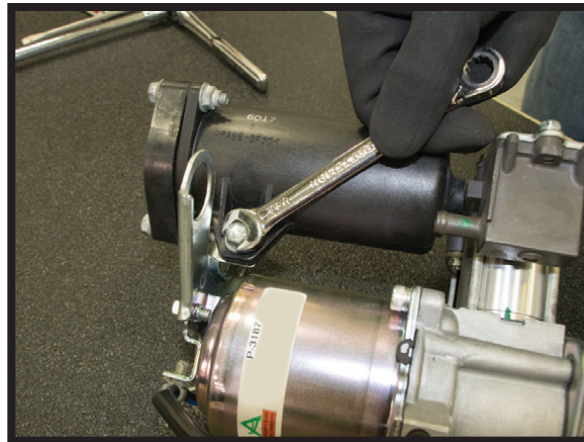

FIGURE 18
3. REINSTALL THE DRYER BOLT, TIGHTENING TO MANUFACTURER'S SPECIFICATIONS. (FIGURE 18)